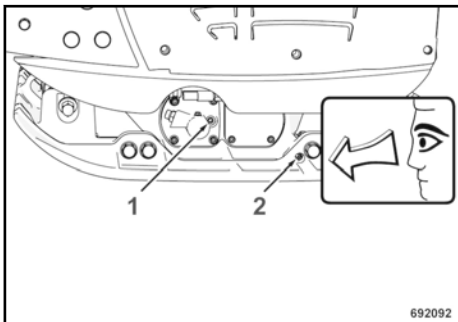

Fig. 49
Unscrew the bleeding screw (1) ↗ Fig. 49.